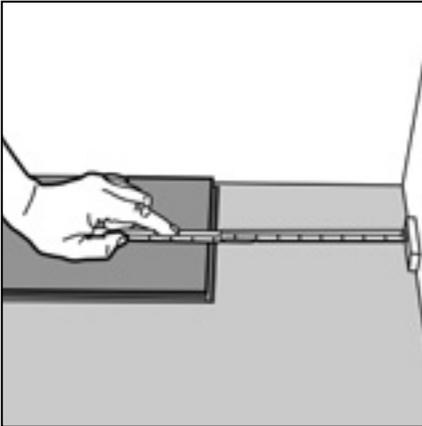
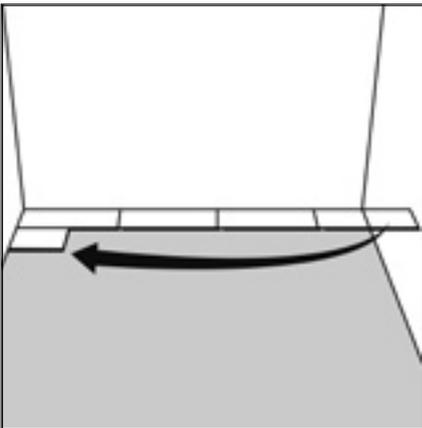

Figure 12 Last plank, first row
Figure 13 First Plank second row
- ▶ Measure the length of this plank/tile to fit (fig. 12), cut to correct length and turn back so the overhanging male profile on the short edge is now facing the previous plank/tile. Install as before. The minimum length of this plank/tile should be 350mm. Note - The remaining part of this plank/tile will start the next row (fig. 13).
- ▶ Start this new row with the leftover piece from the last row (min length 350mm - fig. 13). Insert the plank/tile at an angle against the plank/tile in the previous row (fig. 14). Press forward and fold down at the same time.